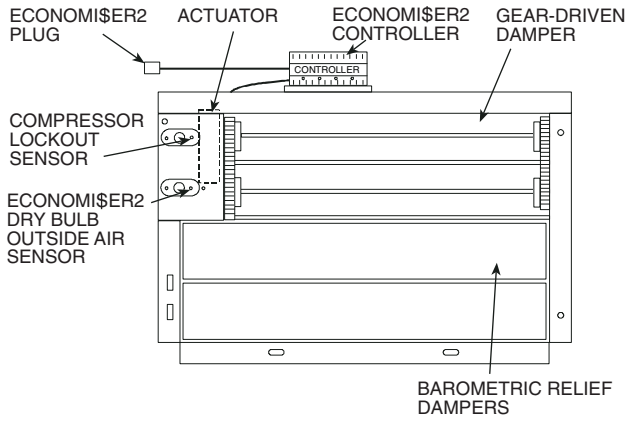

Fig. 20 — EconoMi\$er2 Component Locations
OPTIONAL ECONOMISER2 — See Fig. 20 for EconoMiSer2 component locations.
2. The box with the EconoMiSer2 hood components is shipped in the compartment behind the EconoMiSer2. In order to remove the box, the EconoMiSer2 controller must be temporarily moved. This step does not need to be performed on an EconoMiSer2 with 4 to 20 mA control as there is no controller. The entire EconoMiSer2 does not have to be removed to retrieve the hood box. The EconoMiSer2 controller is mounted on top of the EconoMiSer2 in the position shown in Fig. 20.